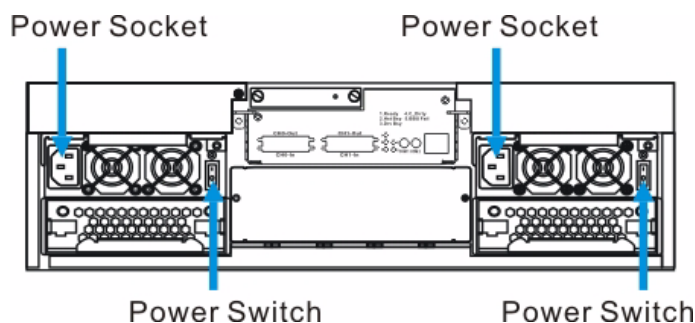

Fig. 5.5 Power Sockets and Power Switches
Turn the two (2) power switches on. (See *Figure 5.5*) Each switch controls a single PSU, therefore make sure that both switches are turned on.